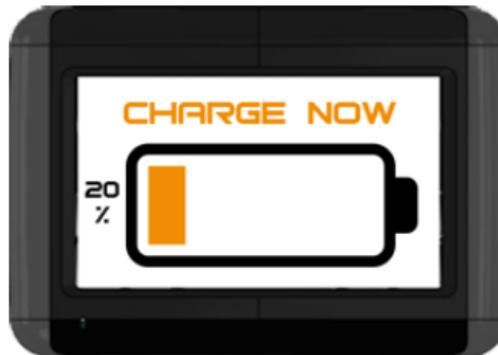

Figure 18: BDI Screen displaying ORANGE and CHARGE NOW.
- b. **ORANGE and CHARGE NOW** (Figure 18): Battery SOC at 11-20%. Connect to a charger as soon as possible.